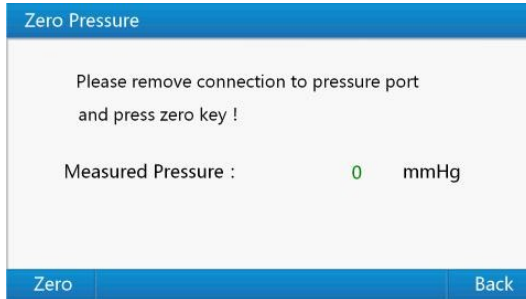

Figure 8 Zero pressure interface
- 2) Use up or down key in "**System Setup Menu**" to select "**Zero Pressure**", then press "**Enter Key**" to zero pressure interface shown as Figure 8.